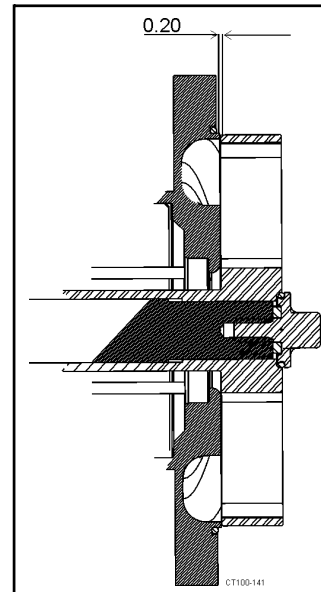
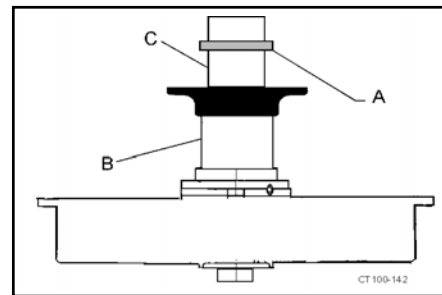

Figure 24 - Clearance Between Impeller and Backplate
Figure 25 - Shims Locations
1. To determine number of shims needed to space impeller from backplate while parts are in metal to metal contact, hold impeller and backplate in place on motor shaft and check shimming of impeller location (Figure 24). If necessary, add or remove shims from motor shaft so space between backplate and impeller face is .020. When .020 clearance is achieved, clamp backplate, assemble impeller retainer bolt and check clearance again.
NOTE: Any axial movement of shaft should not be added to .020 nominal clearance (Figure 24). If needed, change clearance by adding or removing shims. Shims (Figure 25, item A) are added on drive shaft (Figure 25, item C) behind impeller shaft (Figure 25, item B). Clean all parts and lubricate all elastomer (rubber-like) parts with sanitary lubricant.